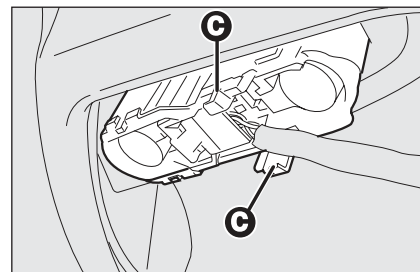

fig. 34
- ☐ lower the lid and remove the bulb holder unit by pressing the retaining tabs **C-fig. 34**;
- ☐ refit the bulb holder unit securing it properly using the retaining tabs **C-fig. 34**;